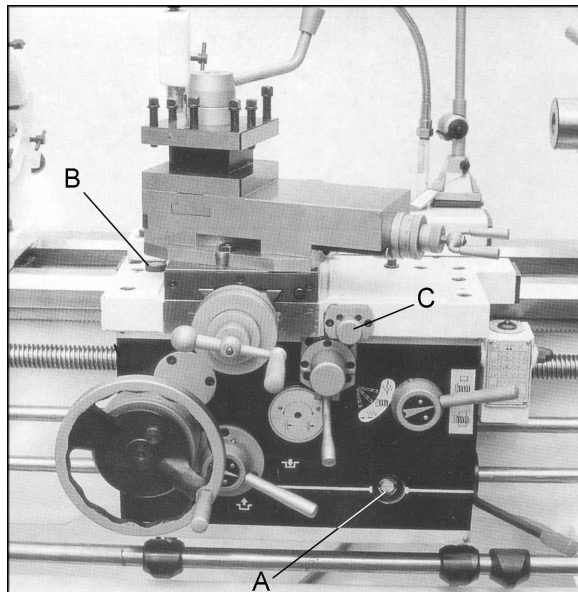

Figure 5
3. **Apron** – Oil must be between indicator marks in the oil sight glass (A, Figure 5). Top off with Mobil DTE® Oil Heavy Medium. Remove oil plug (B, Figure 5) to fill. To drain, remove drain plug on bottom of apron.
Drain oil completely and refill after the first three months of operation. Then, change oil in the apron annually. Pull knob (C, Figure 5) on the one-shot lube system and hold for several seconds to allow oil to fill the pump. When the knob is released, oil will flow through various oil lines to lubricate the ways and cross slide surface. Perform this twice daily or as needed. When the oil level is below the indicator mark, oil must be added.